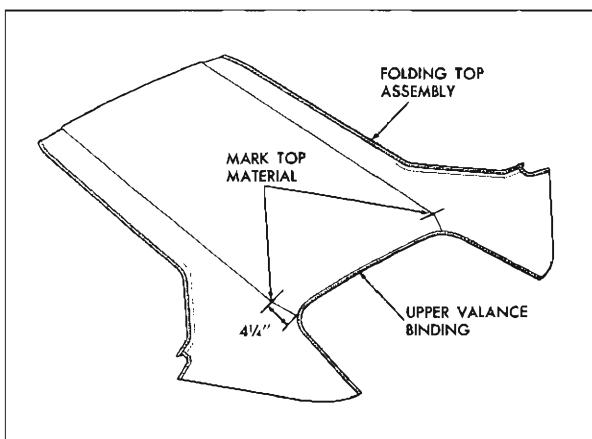

Fig. 21-48 Marking Top Material
25. Using a pencil, mark top material (mark should be approximately $\frac{1}{2}$ " in length) at deck seam $4\frac{1}{4}$ " from edge of top material upper valance binding (Fig. 21-48).